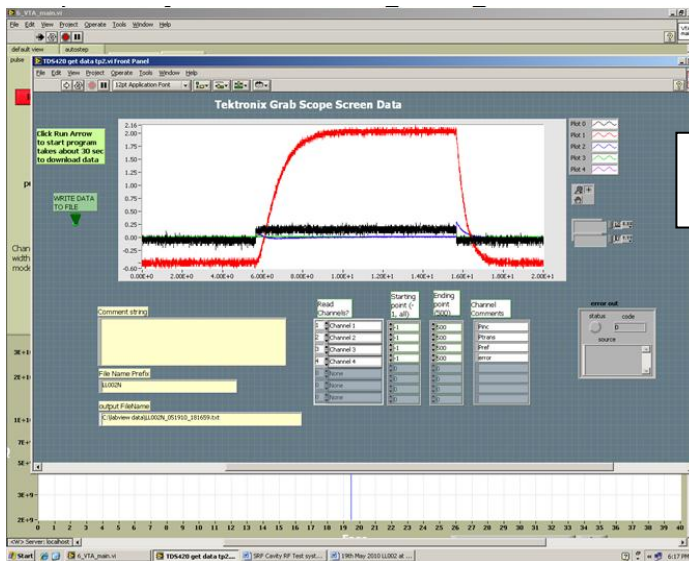

Figure 8 Examples of oscilloscope traces as recorded by the TDS420getData_tp2.vi.
- Input in CavID in the **File Name prefix** on the TDS screen (See Figure 8). Insert in the **Comment field** the CavID, test date and cavity coupling